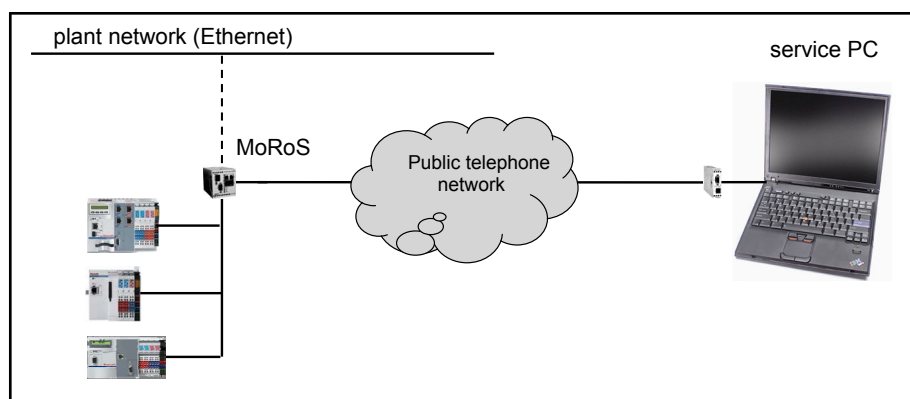

Fig. 12-2: Dial-up connection between service PC and MoRoS
- For a dial-up connection between service PC and MoRoS, see fig. 12-2 "Dial-up connection between service PC and MoRoS" on page 452
A dial-up connection is established between the service PC and the MoRoS in this configuration type. MoRoS establishes a direct connection to the subnet of the controls. The programs (such as IndraWorks Engineering) and data (such as IndraWorks projects) are now located on the service PC that can directly diagnose and maintain the control connected via MoRoS. For an exemplary connection establishment, see fig. 12-2 "Dial-up connection between service PC and MoRoS" on page 452.